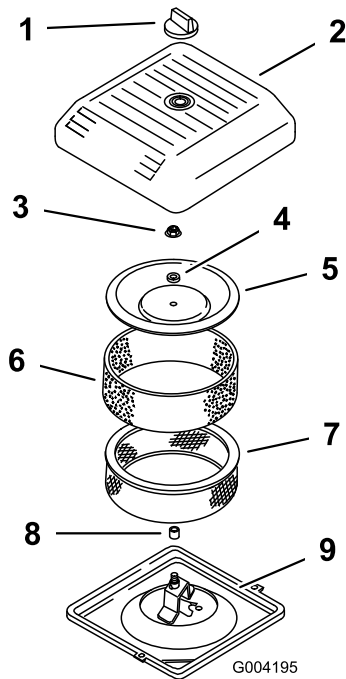

Figure 158
- Carefully slide the foam pre-filter onto the paper filter (Figure 158).